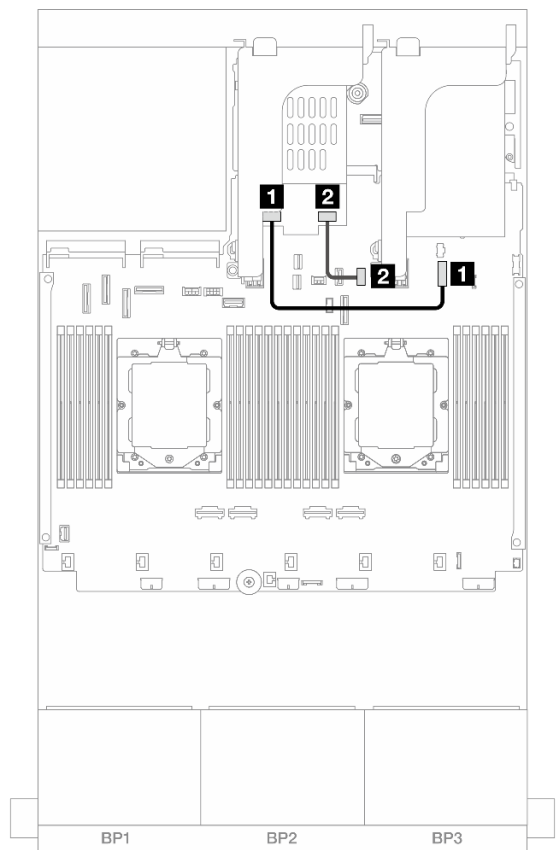

Figure 246. SATA cable routing
- Figure 246 “SATA cable routing” on page 246